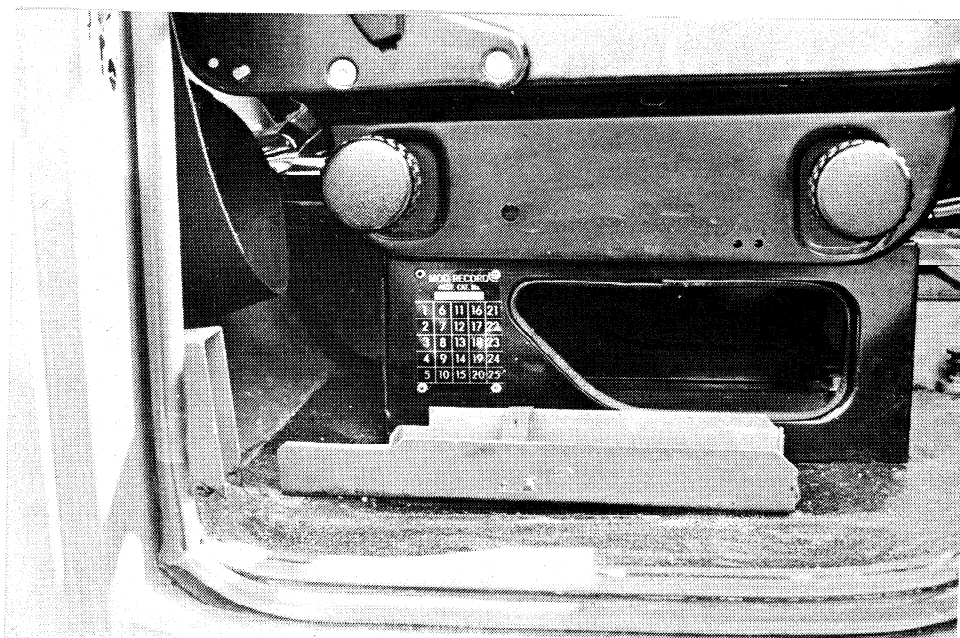

FIG 2 - MODIFICATION RECORD PLATE LOCATION
8. Modification Record Plate. Fit the modification record plate, item 2 from Table 1, to the driver's seat base as shown in Fig 2 and delete the numeral 1.